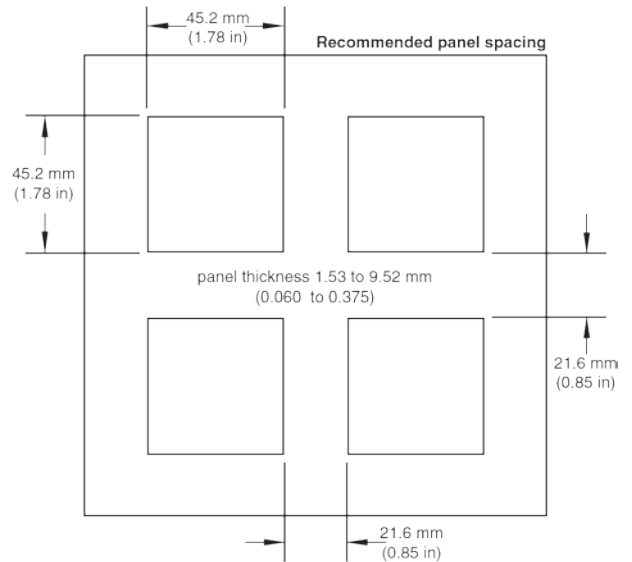

FIGURE 1 - CONTROLLER PANEL LAYOUT
1. Make the panel cutout using the mounting template dimensions shown in **Figure 1, page 1**.